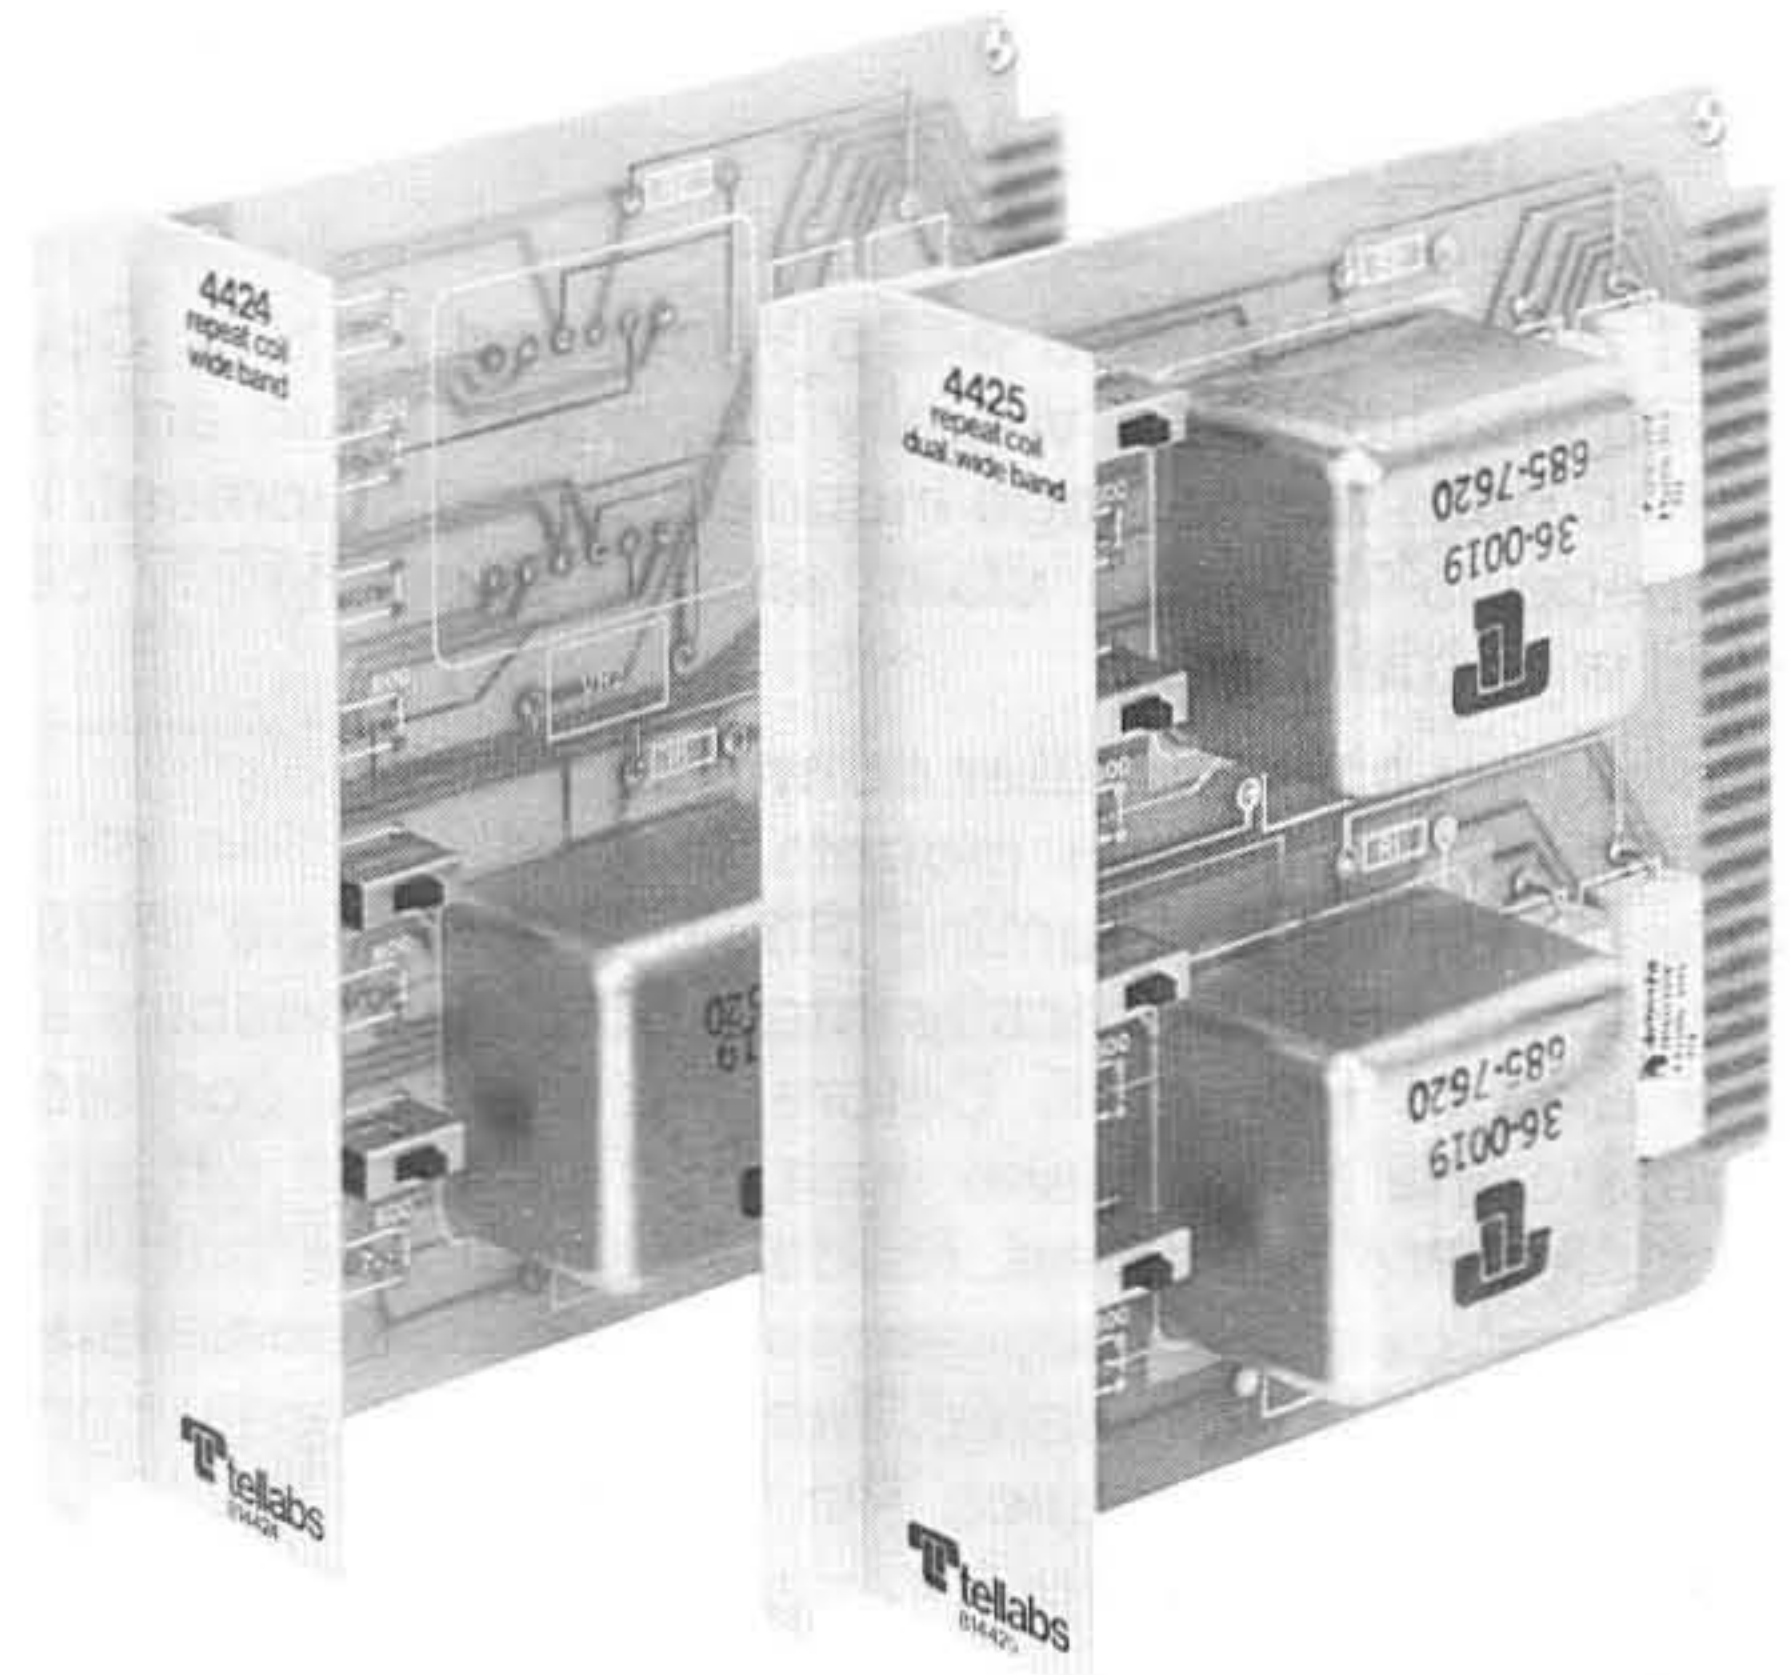

figure 1. 4424 and 4425 Wideband Repeat Coils
1.01 The 4424 and 4425 Wideband Repeat Coil modules (figure 1) each provide transformer isolation, impedance matching, and simplex-lead derivation for use on wideband voice-frequency transmission facilities (normally transmitting am or fm radio programming or tv audio) with a bandwidth requirement of 50 to 15,000Hz.